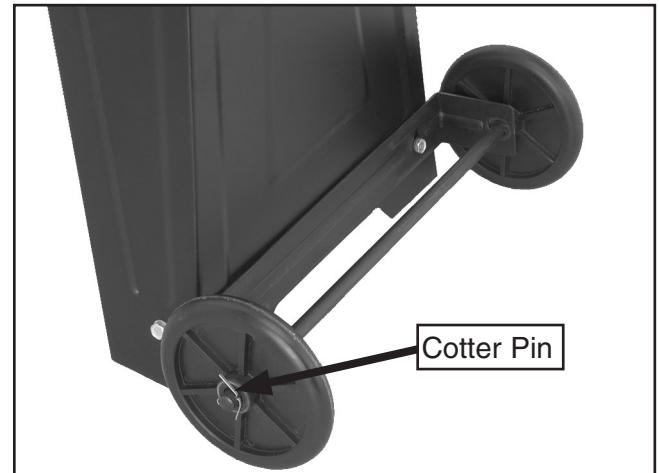

Figure 6. Wheel assembly.
5. Slide the wheels onto the axle on the outside of the mounting brackets, and secure with the cotter pins as shown in **Figure 6**.